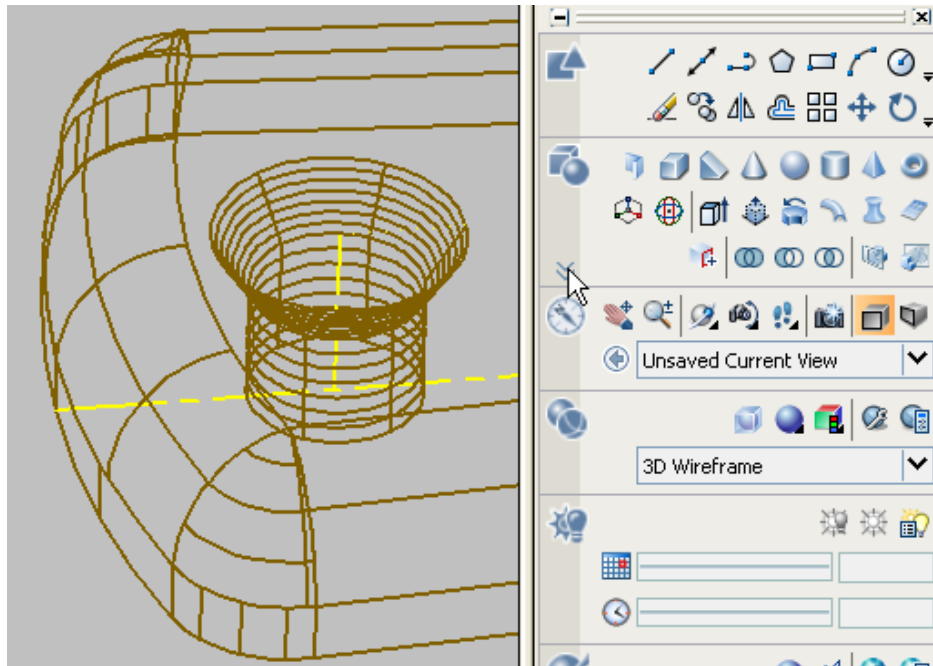

Figure 7
7. Move the cursor arrow to the area of the Make 3D control panel in the Dashboard as shown in Figure 7. A down pointing chevron will appear to expand the control panel revealing more tools. Click on the chevron.